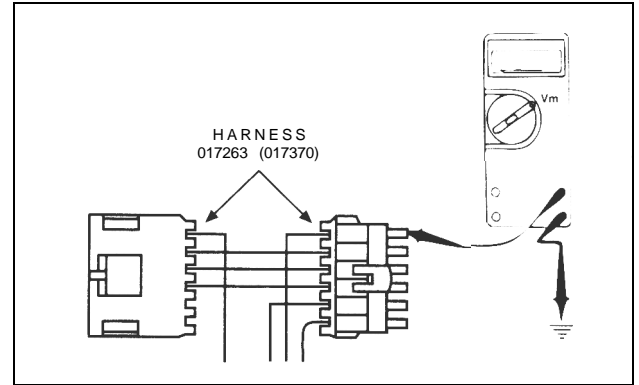

FIG. 1.1.22
**Jacobs Switch Group:** Disconnect P/N 017263 (017370) harness from Jacobs control module. Measure the voltage at the RED wire. The voltmeter should read +12 VDC when the main power supply is ON and 0 VDC with main power supply OFF (Fig. 1.1.22). If these conditions are not present, check power supply and connections.